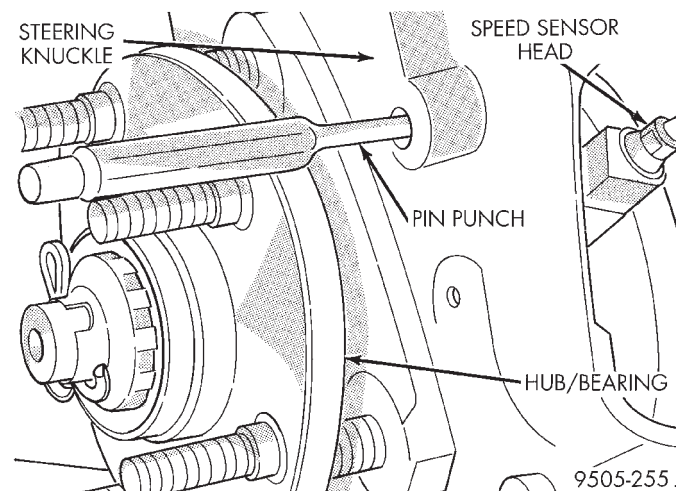

Fig. 35 Speed Sensor Head Removal From SteeringKnuckle
(6) If speed sensor head can not be removed from steering knuckle by hand, the locating pin on the speed sensor head has seized to the steering knuckle do to corrosion. Remove speed sensor head from steering knuckle using the following procedure. Remove disc brake caliper from steering knuckle, and remove brake rotor from hub/bearing assembly. Then insert a pin punch through hole in front steering knuckle (Fig. 35) and tap speed sensor head locating pin out of steering knuckle.